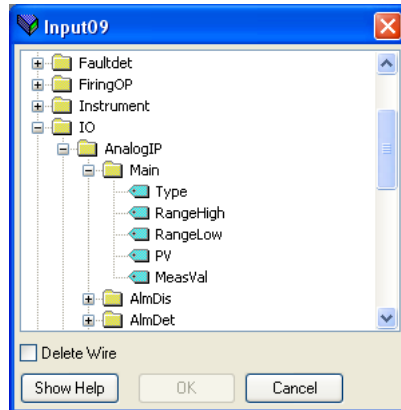

Figure 141 Browser window
1. Double click the next available position in the input or output data table and select the variable to assign to it. A pop-up (figure 141) provides a browser from which a list of parameters can be opened.